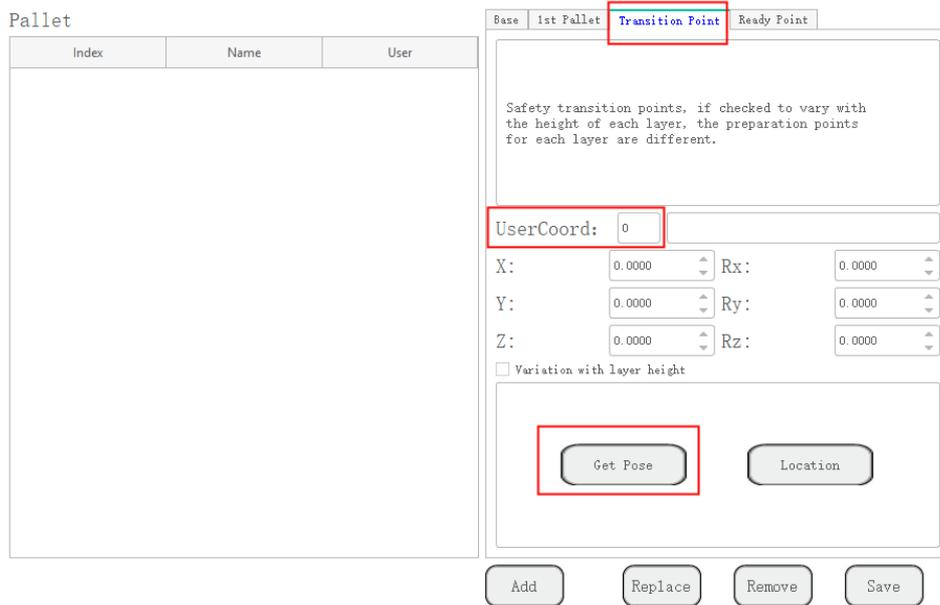

Figure 4.6 Teach the transition point
Step 4 Jog the robot to the transition point and click **Get Pose** on the **Transition Point** tab, as shown in Figure 4.6.